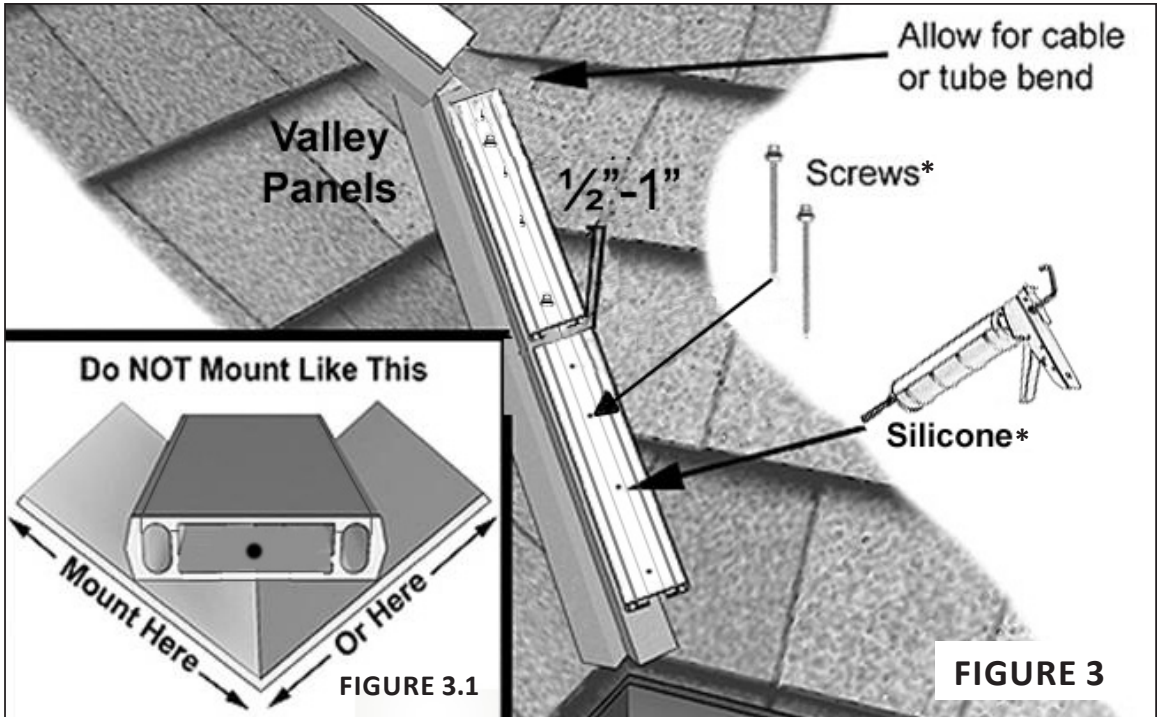

FIGURE 3
b) Valley Panel Attachment FIG 3